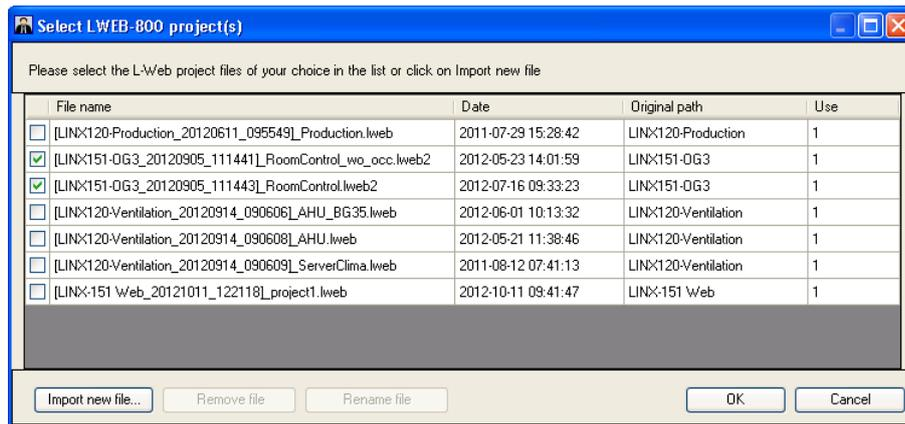

Figure 201: Select LWEB-800 Projects Dialog
3. The **Select L-Web projects** dialog opens as shown in Figure 201. The dialog displays a list of LWEB-800/802 projects available in LWEB-900. Use the checkboxes to assign LWEB-800/802 projects to the device(s) and press **OK**.